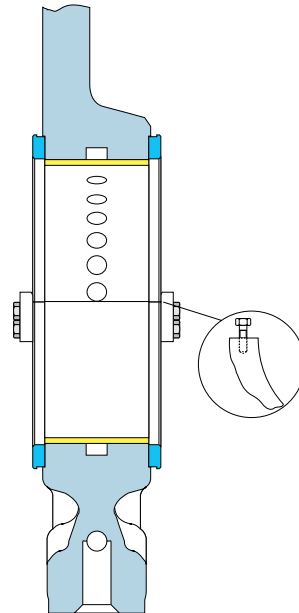

Fig 10-3
- 14** Remove the lower bearing shell and the thrust washers. To remove the thrust washer next to the driving end, an M6 screw can be fitted to each end of the washer, see Fig 10-3.
8 Lubricate the bearing surfaces of the lower thrust washers and push them into position on the guiding pins in the bearing cap. For mounting the thrust washer next to the driving end an M6 screw can be fitted to each end of the washer, see Fig 10-3.